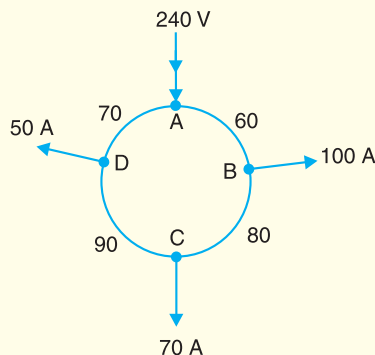

Fig. 13.45
1. A 300 m ring distributor has loads as shown in Fig. 13.45 where distances are in metres. The resistance of each conductor is 0.2 W per 1000 metres and the loads are tapped off at points B , C and D as shown. If the distributor is fed at A at 240 V, find voltages at B , C and D .